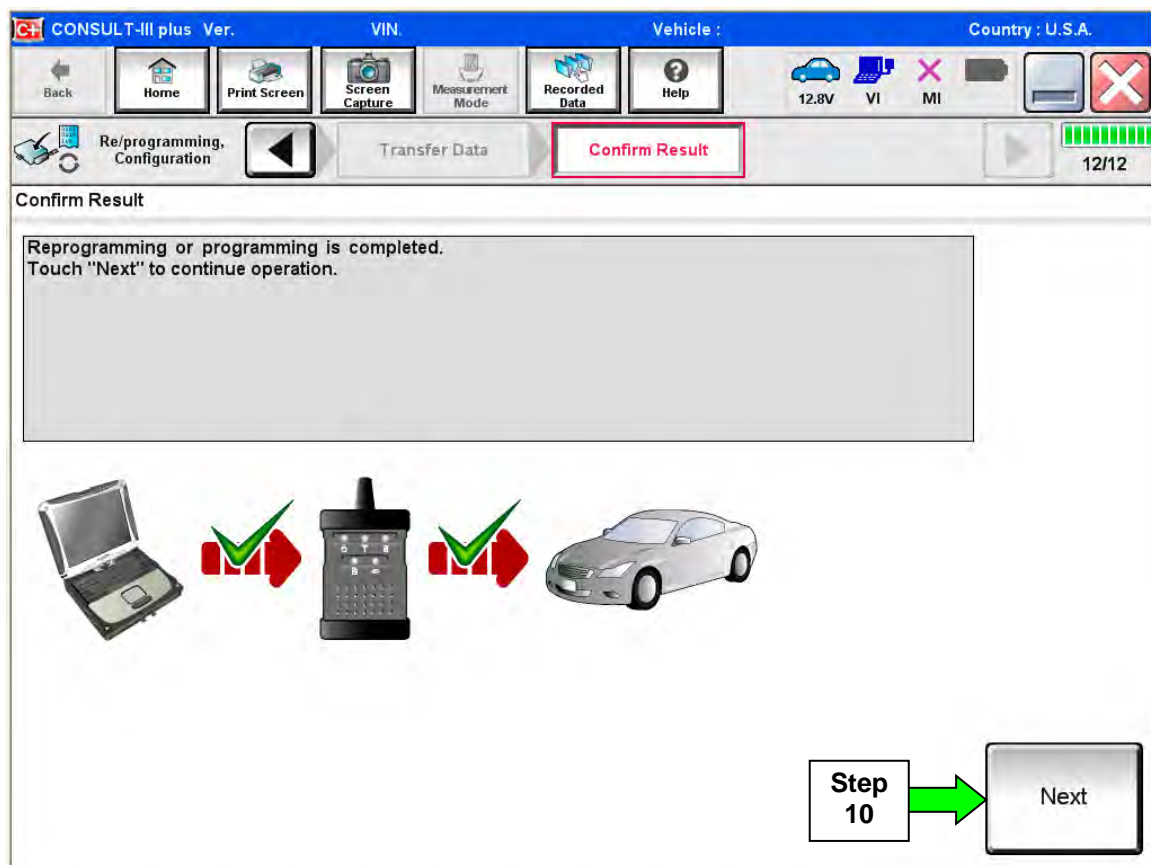

Figure 4B
8. When the screen in Figure 4B displays, reprogramming is complete.
NOTE: If the screen in Figure 4B does not display (indicating that reprogramming did not complete), refer to the information on the next page.